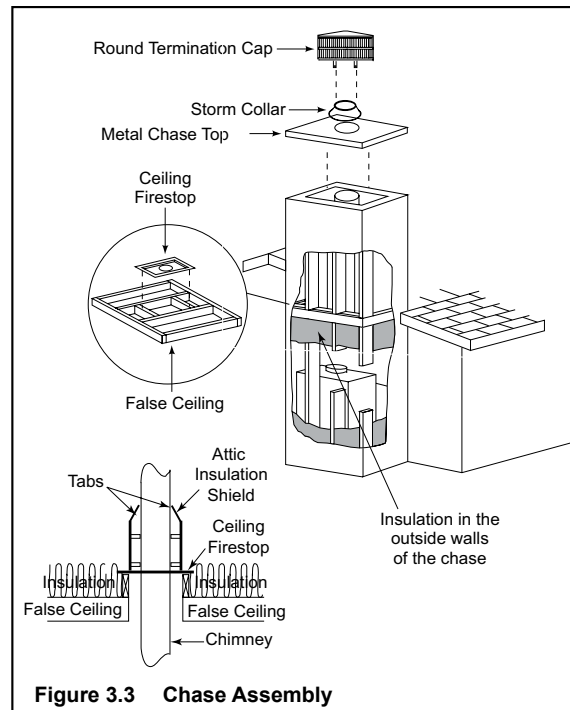

Figure 3.3 Chase Assembly
Walls, ceiling, base plate and cantilever floor at the first level of the chase should be insulated (see Figure 3.3.) Vapor and air infiltration barriers should be installed in the chase as per regional codes for the rest of the home. Additionally, Vermont Castings Group recommends that the inside surfaces be drywalled and taped (or the use of an equivalent method) for maximum air tightness.
- In cold climates, the walls of the chase should be insulated to the level of the false ceiling as shown in Figure 3.3. This will help reduce heat loss from the home around the fireplace.